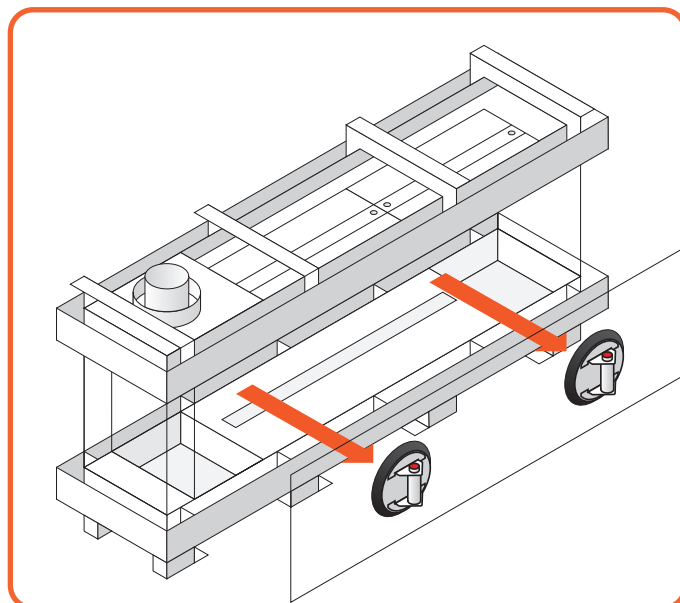

Figure 11.18 | Removal of long side glass
- Lift the window a little and tilt it out of the fireplace through the opening. (Figure 11.18)